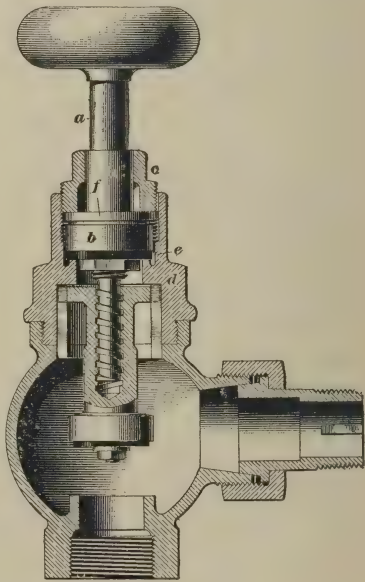

FIG. 72
**110.** The packingless valve shown in Fig. 72 is a type of valve that has lately been placed on the market.